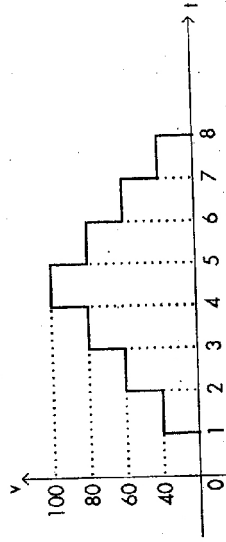

Fig. 2.14
14. Find rms and average value of the waveform shown in Fig. 2.14.